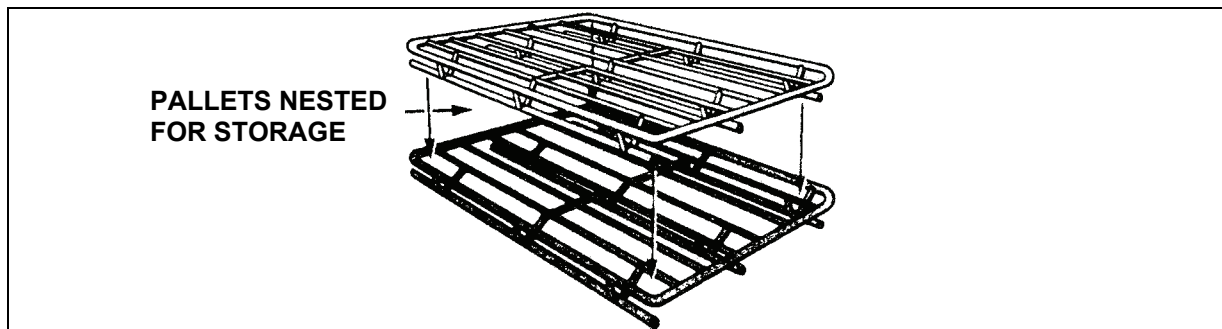

Figure 9-1. Four-Way Pallet (Nestable Tubular Steel)
- **Pallets.** Four-way pallets are platforms 40 inches by 48 inches by approximately 4 inches high, constructed of welded steel (Figure 9-1) or hardwood, usually oak. They are designed to be lifted by a forklift truck from either side. Cargo should be banded or strapped to pallets to provide a stable and secure load.